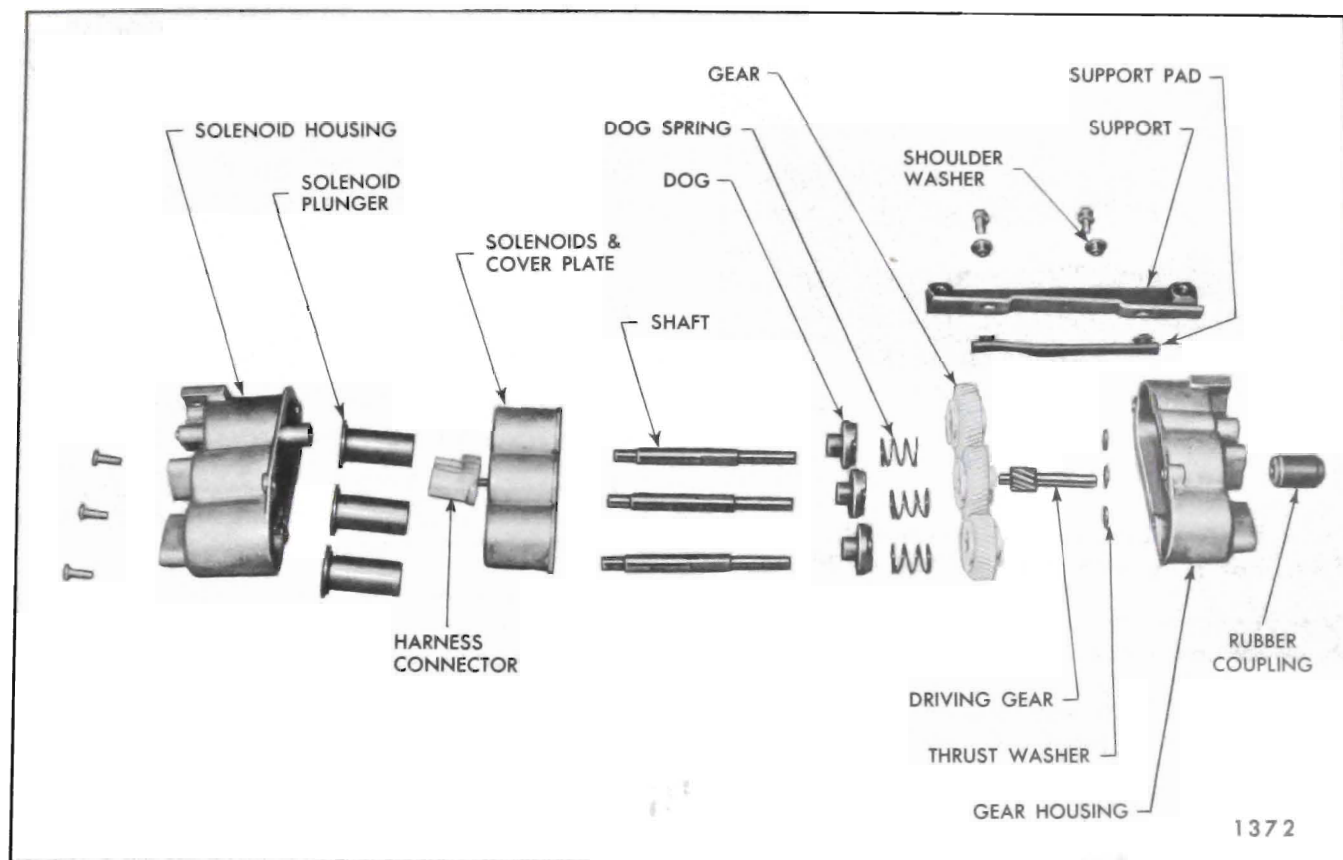

Fig. 15-15—Six-Way Seat Adjuster Transmission - "B & C" Style
2. Remove screws securing gear housing to the solenoid housing; then, carefully separate housings and remove component parts of transmission assembly (Fig. 15-15).